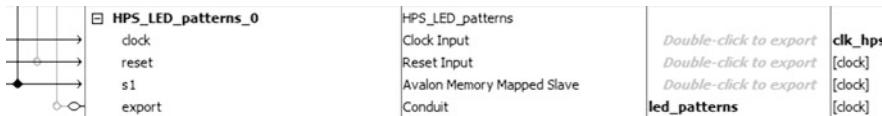

Fig. 6.5: Exporting the led_patterns signal in Platform Designer
- On the line that says **export** in the *Name* column and also **Conduit** in the *Description* column for the HPS_LED_patterns component, double click where it says **Double click to export**. Rename this export signal name from *hps_led_patterns_0_export* to **led_patterns** (Fig. 6.5).